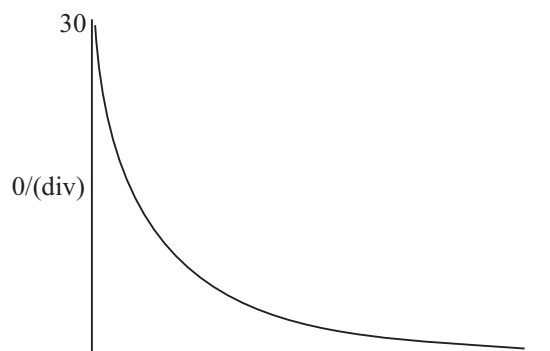

Fig. 25.3: Galvanometer deflection (Q) versus time (t). time/(s)
- (viii) Plot galvanometer deflection θ along y-axis against time t along axis as shown below (Fig. 25.3).